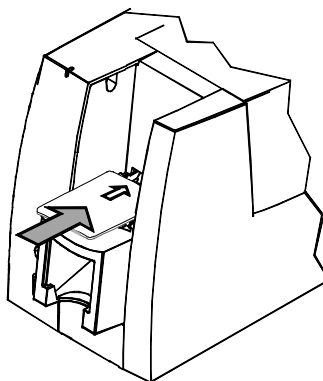

Figure 4-6: Insert the magnetic stripe cleaning card
- 1 Insert a magnetic stripe cleaning card into the exception card slot. Make sure the arrow is on top and pointing into the printer (see Figure 4-6). (You can also remove the card cartridge and place the cleaning card on the card input rollers.)